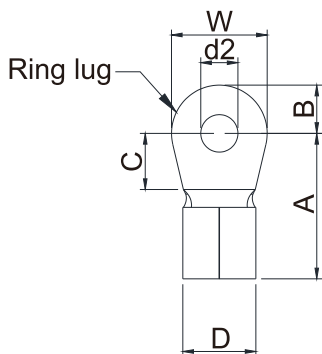
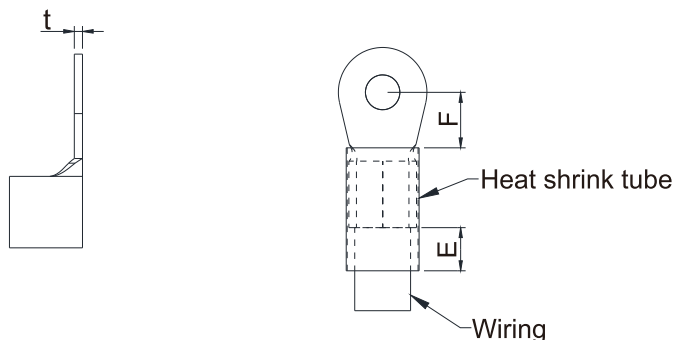

Figure 5-10
Figure 5-11
See figure 5-10 and figure 5-11 for ring lug specifications. For other types of wiring, use the wires that comply with the local regulations.
- After crimping the wire to the ring lug (must be UL and CSA approved R/C (YDPU2/8)), install heat shrink tubing rated at a minimum of 600V_{AC} insulation over the live part. Refer to figure 5-11 below.